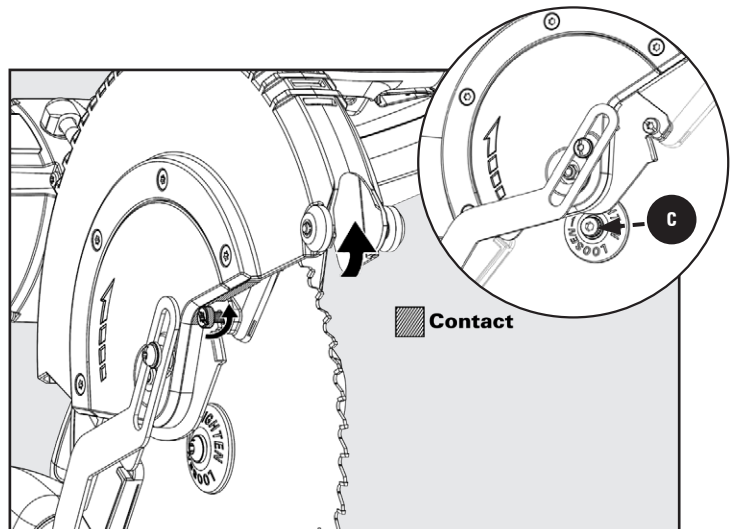

Figure 9
See Figure 9.
6. Remove **ONLY** the Outer Blade Washer (D) and the Blade (E), leaving the Inner Blade Washer on the Spindle. See Figure 9.
8. Align the double "D" Flats on the Blade Washer (D) with the flats on the Spindle and fit the Washer onto the Spindle.
9. Lock the Spindle by depressing the Spindle Lock Button. Screw in the Blade Bolt (C), remembering to thread it counterclockwise. Tighten Blade Bolt securely using the provided Blade Wrench.